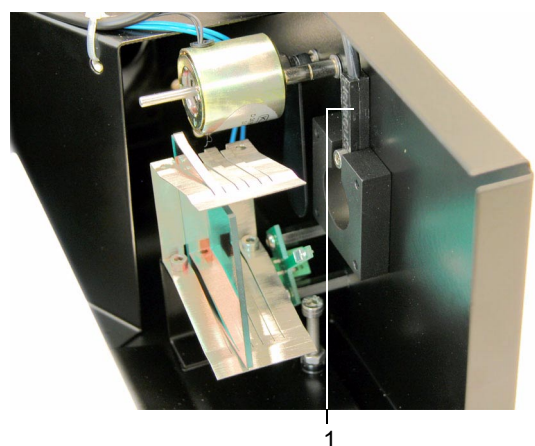

Fig. 8: Temperature Sensor
Fig. 8: To protect the illumination module from damage by overheating, it is equipped with a PT100 resistor serving as a temperature sensor (1). The temperature sensor is located close to the fiber connector.